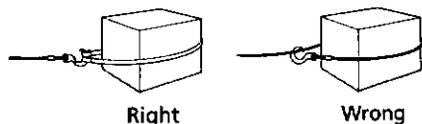

Figure 4
7. Never hook wire rope back onto itself. Use a nylon sling (See Figure 4). Hooking wire rope onto itself can damage rope. When using a sling, make sure that sling is properly seated in saddle of hook.